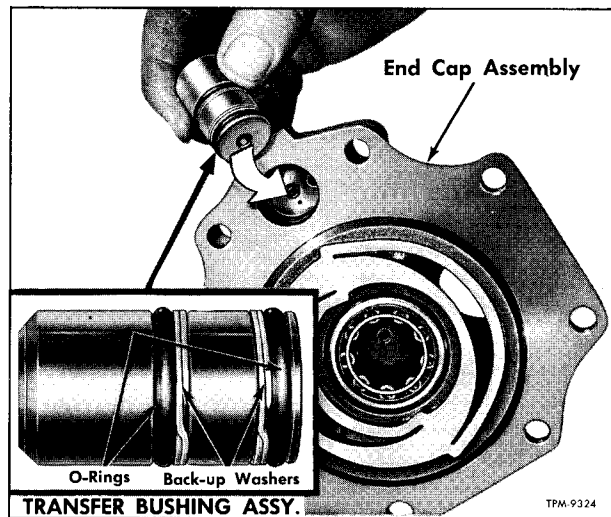

Figure 51—Installing Pump Transfer Bushing Assembly
9. Referring to figure 51, inspect transfer bushing O-rings (37) and back-up washers (38) for collapsed or scuffed condition. Replace if necessary. Install O-rings and back-up washers on bushing, then insert transfer bushing assembly into end cap as shown.
10. Place pump in vise with shaft downward. Clamp vise jaws on pump shaft. Assemble housing gasket (18) to pump housing. Grease rollers in end cap bearing (3) packing grease to the outside to allow clearance for inner bearing race on the shaft.
11. CAREFULLY place end cap (19) against cylinder block (45).